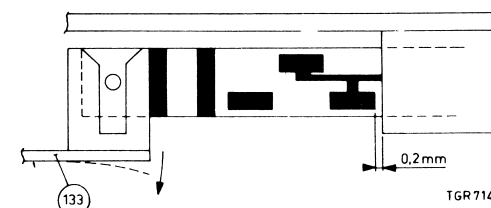

Fig. 23
Switch on the apparatus at "19 cm/sec."; the switch should then be as shown in Fig. 23. This can be adjusted by moving the toothed bracket, item 133, one or more teeth.